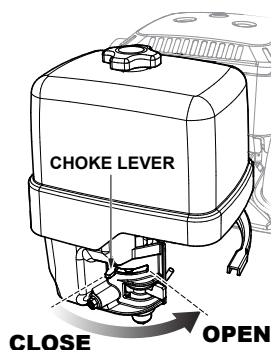

Figure 26. Engine Choke Lever (Open)
8. After the engine has warmed, place the choke lever in the **OPEN** position (Figure 26) before operating the screed.